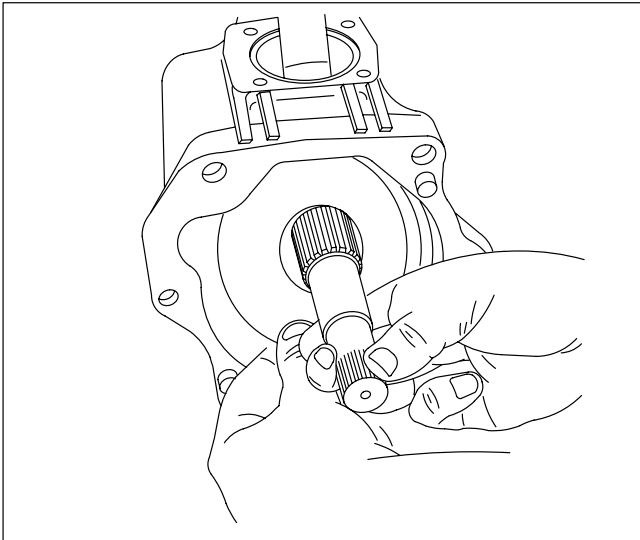

Figure 15. Removal of Yoke and Shaft from Housing.
c. Slide the yoke from side to side to loosen the yoke bearing races (54) within the housing. The races are a normal slip fit but may be tight. Use an open end wrench between the yoke and the pintle bearing to help slide out the races. Apply pressure to bearing (55) at the approximate center and allow the bearing rollers to gently press the race out of the housing.
15. Remove yoke (56) and drive shaft (48) from the housing together. Turn the yoke at an angle and slide the two parts out of the housing. See Figure 15.